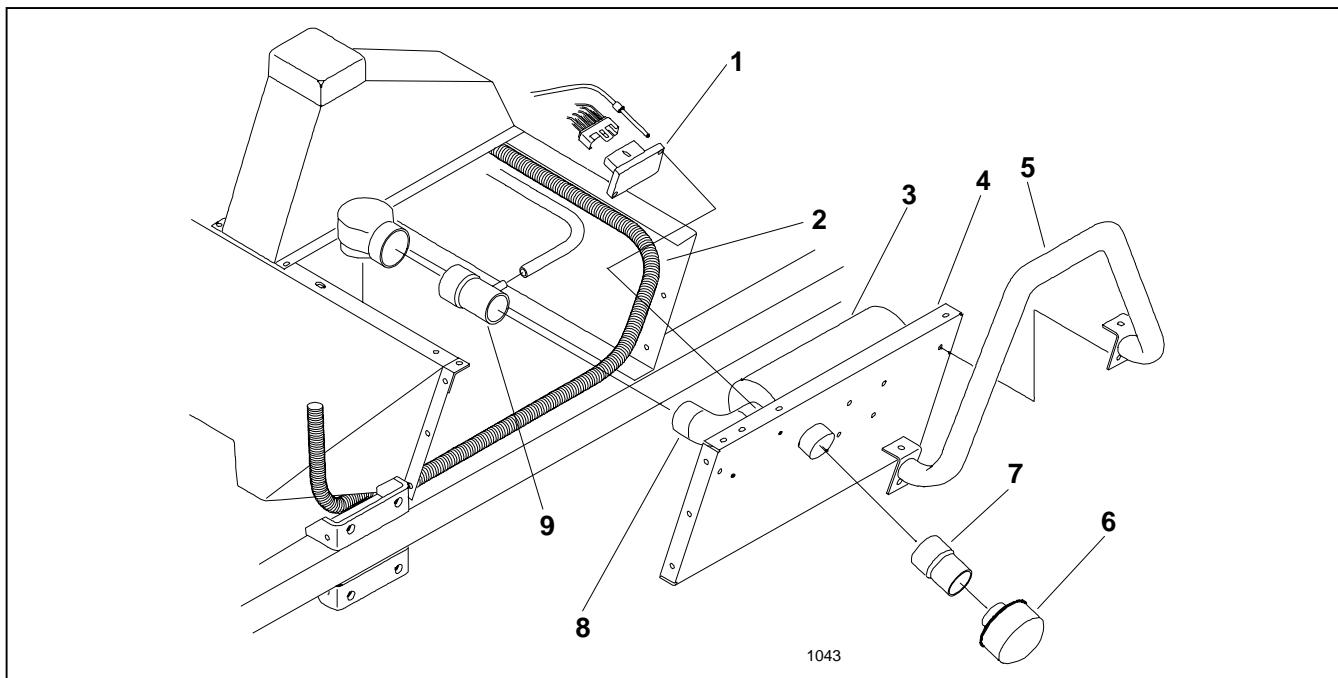

FIG. 1
2. Raise R.H. Seat, unplug Wire Harness Ass'y and disconnect Vacuum Hose from ESC Module located on R.H. Seat Box Panel. Loosen hose clamp and separate 90° hose from Inlet Tube Ass'y, that connects to Air Cleaner. See FIG 1.
3. Remove R.H. Hip Restraint and R.H. Seat Box Panel from vehicle. Air Filter assembly may remain attached to panel. **For added convenience, remove R.H. Seat.** Note: The R.H. Lower Rear Mounting Bolt and Nut and the (3) bolts and hardware from the front of the R.H. Seat Box Panel may be discarded. See FIG 1.
5. Hook Blower Wiring Harness to Accessory Solenoid and route following the path of the vehicle harness, to the R.H. side of the vehicle Frame. Route out the rear of Seat Box and to top of Rops Bar. See FIG. 1 & Wiring Diagram on page 4.
1. Replace R.H. Seat Box Panel removed in "A/C Compressor Installation" Step 3, **except** for (3) bolts and hardware on front of R.H. Seat Box Panel.
4. Remove Inlet Cap and slide Air Intake Extension onto Air Filter assembly. Use RTV silicone and seal Extension to Air Filter Ass'y. See FIG. 1.